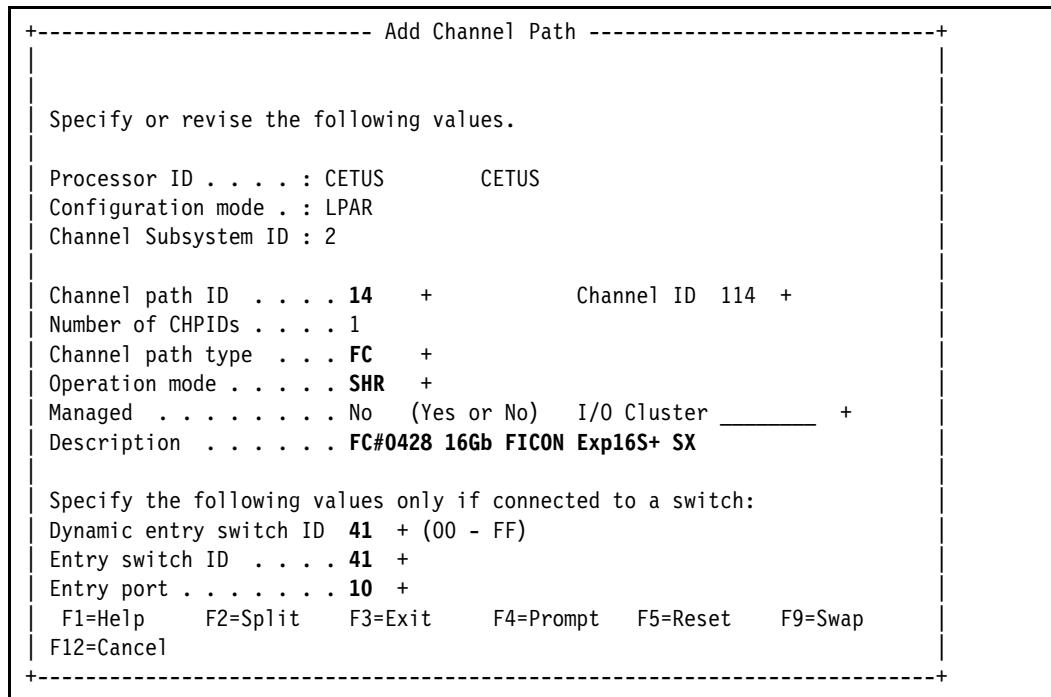

Figure 12-3 Processors: Add Channel Path
4. In the command line, enter add (Figure 12-3 on page 293) to add a CHPID.